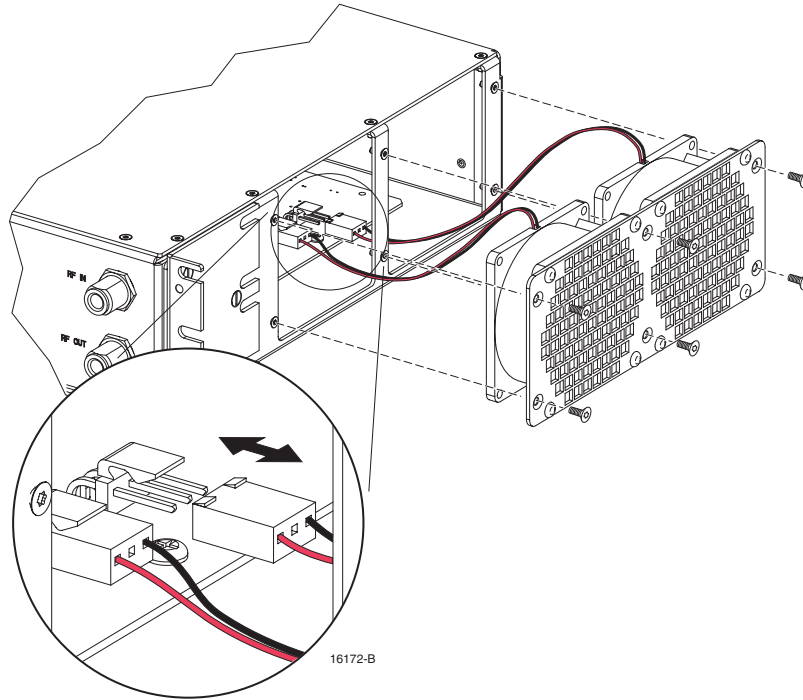

Figure 30. Fan/Grill Assembly Removal
5. Remove the six flat-head screws (requires TORX screwdriver with T15 bit) that secure the fan/grill assembly to the side of the enclosure as shown in Figure 30 and save for reuse.
7. Lift the small latch on each wiring harness connector (see Figure 30) and carefully unplug each connector from the circuit board connector.
12. Secure the fan/grill assembly to the side of the enclosure (see Figure 30) using the six flat-head screws removed in step 5.